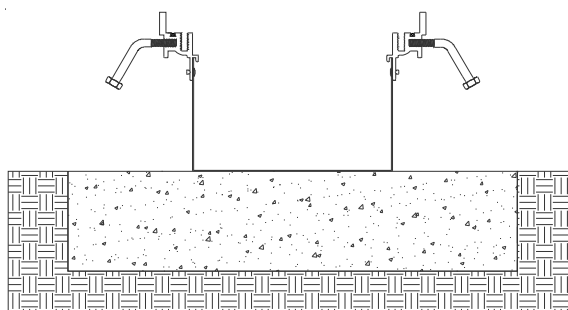

Figure 4
**STEP 5.** Remove the cover plate from the frame (see Figure 4).